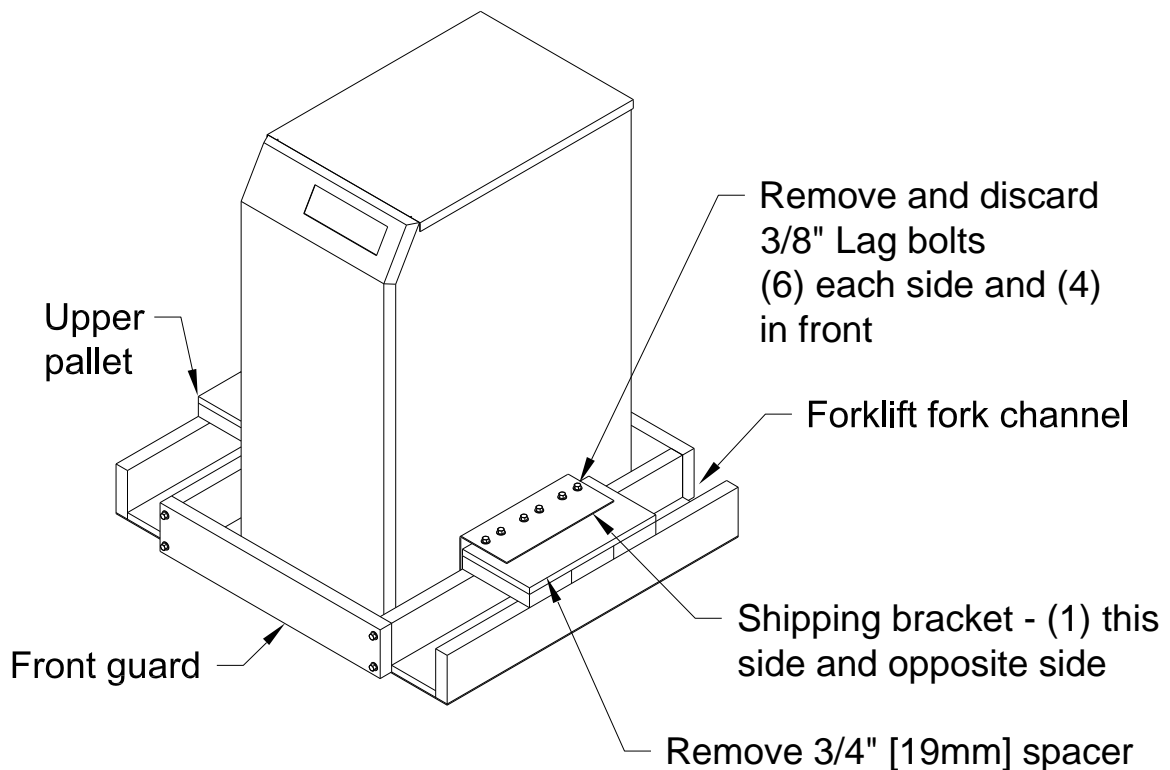

Figure 3 - UPS on pallet
2. With a forklift, lift the cabinet and upper pallet using the forklift channels (see figure 3) from the lower pallet by 1 to 2 inches. Slide the lower pallet completely away from the cabinet. Lower the upper pallet and cabinet to the floor.
3. Remove the (12) 3/8" lag bolts securing the shipping brackets to the pallet and the (4) 3/8" lag bolts securing the front guard board in place (see figure 3).
5. Ensure that the four (4) leveling feet are raised so that they will not touch the floor when the cabinet is placed on the floor.